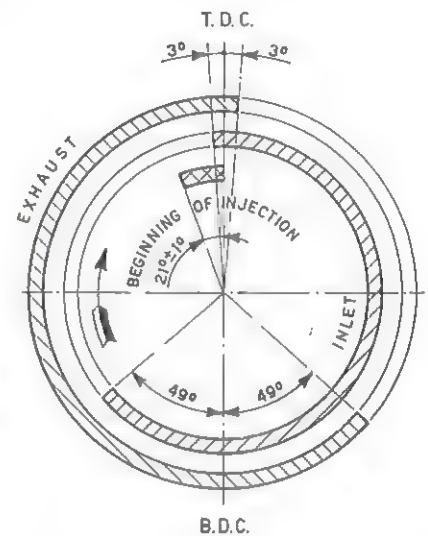

Fig. 14. - Engine timing diagram.
- rotate the crankshaft back and forth a few degrees to make sure that cylinder no. 1 is ending compression, at which point the intake and exhaust valves of cylinder No. 4 will start opening and closing symmetrically at 3° from T.D.C. (fig. 14), respectively, equal to a linear distance of 0.371 in. (9,42 mm) measured on the flywheel rim surface;